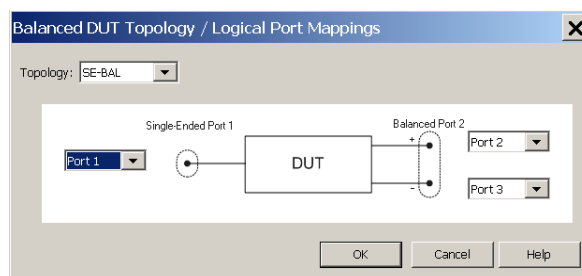

Figure 3 Logical Port Mapping for OE measurement
For OE measurements the single-ended (SE), logical port 1 is assigned to physical port 1 and the balanced (BAL), logical port 2 is assigned to the physical ports 2 and 3 (see Figure 3).